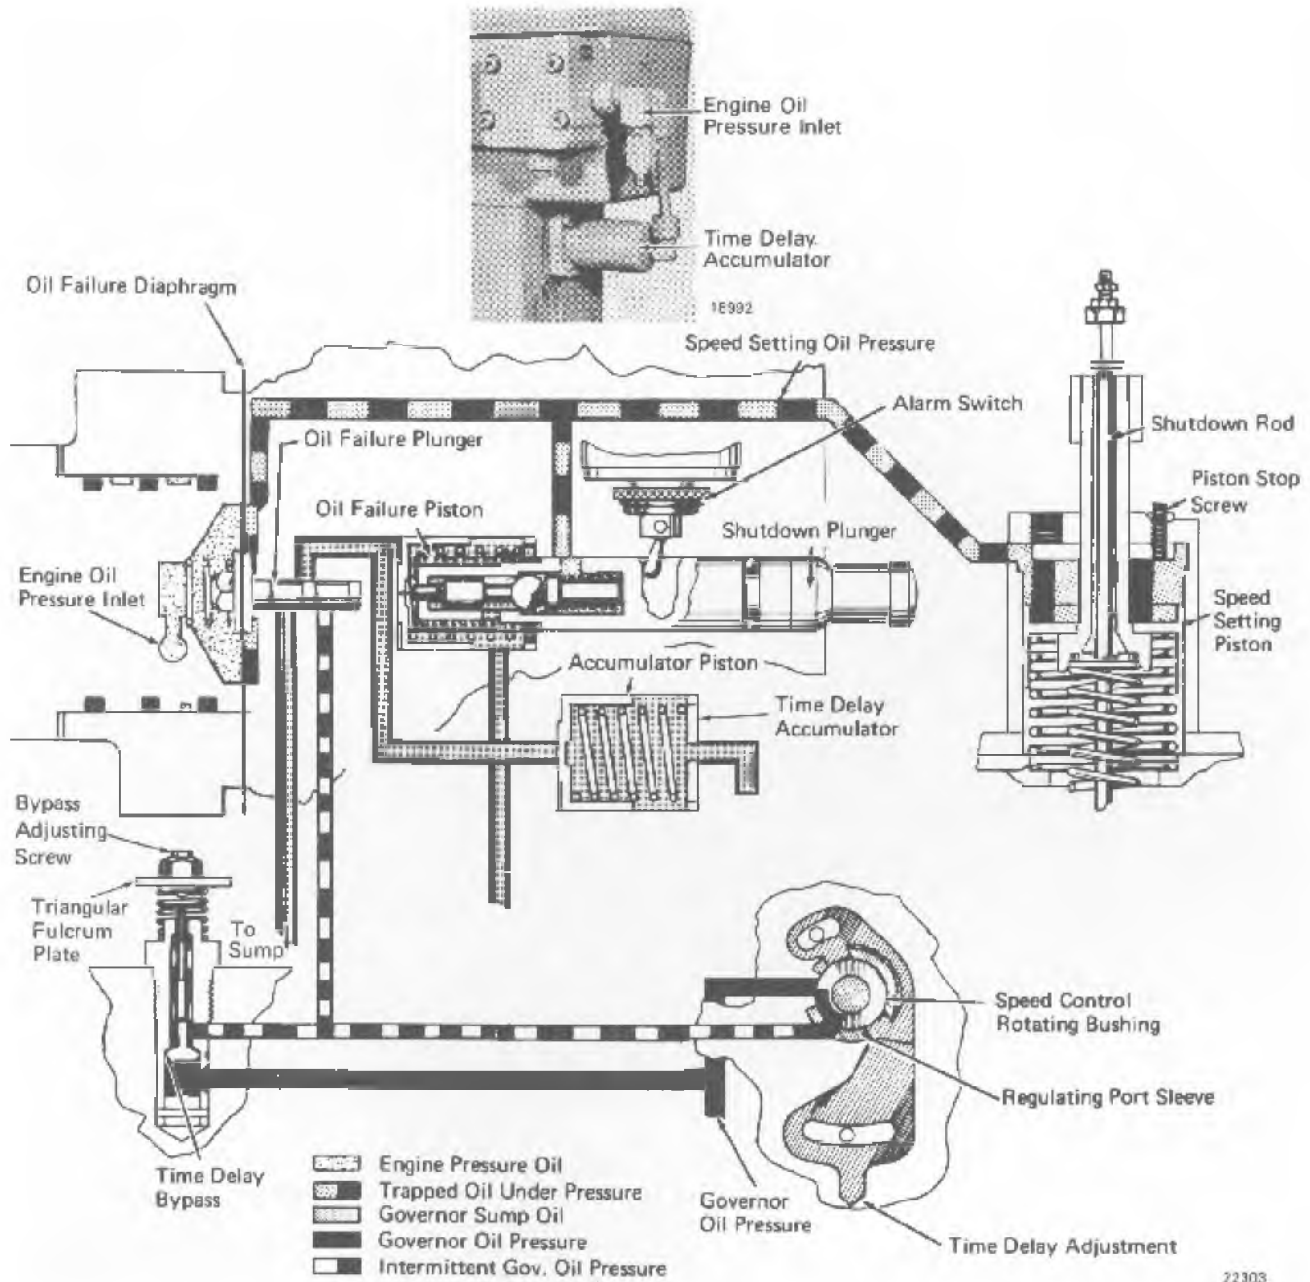

Fig. 12-14 -- Low Oil Pressure Shutdown Device
The low oil pressure shutdown device, Fig.12-14, is an integral part of the governor. The device will respond, by shutting the engine down, when a low oil condition is created. This can be caused by any of the following:
The shutdown device in the governor, Fig. 12-14, consists of an oil failure diaphragm and plunger, time delay accumulator, oil failure piston, ball valve, shutdown rod, and an alarm switch.
2. Back off several turns on the bypass adjusting screw, Fig. 12-14, located in the triangular plate between the "A," "C," and "D" solenoids.